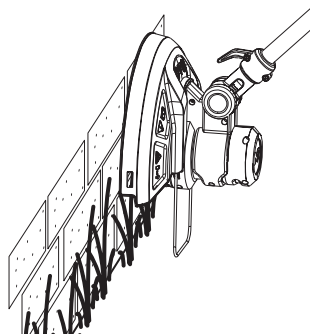

Fig. 20
1. Make sure that the knife protector (11d) is removed and the plant protector (13) is pulled out before operation
2. Attach the edger wheel (16) to the edger support (14a).
3. Adjust the main handle (1) angle to 90° or 180° for edging (Fig. 20).